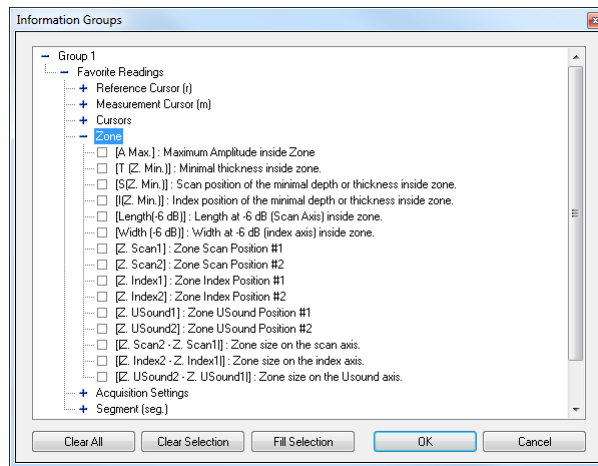

Figure 7-55 The Statistics zone parameters
- b) Select the **Zone** readings that you want to display (see Figure 7-55 on page 396).